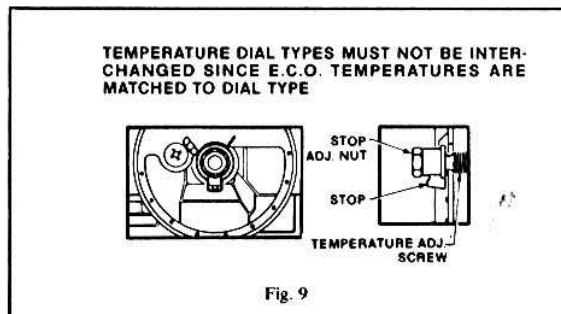

Fig. 9
3. Turn DIAL slowly until the control snaps "OFF". Remove TEMPERATURE DIAL. Holding STOP, to prevent rotation, carefully loosen STOP ADJUSTMENT NUT (See Fig. 9).